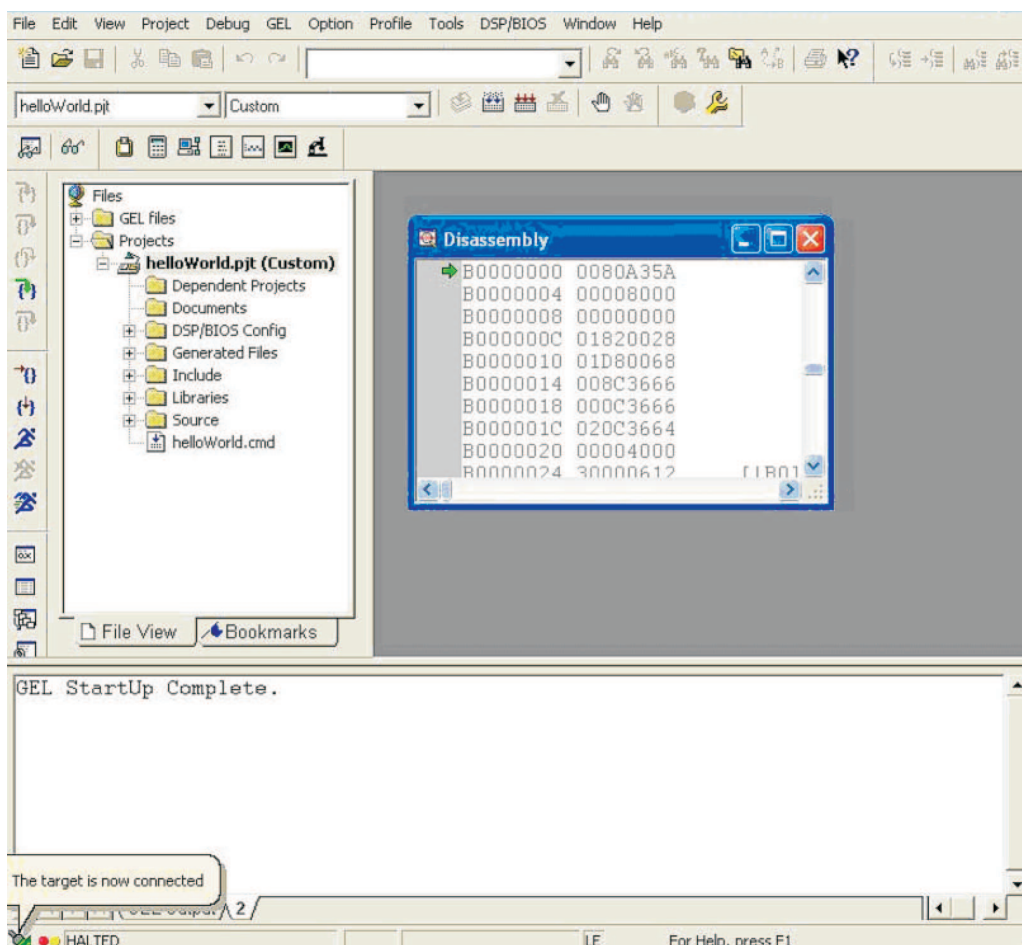

Figure 7. DM642 Connect
16. Once connected, Figure 7 shows up displaying that the Code Composer Studio debugger is now connected to the target.